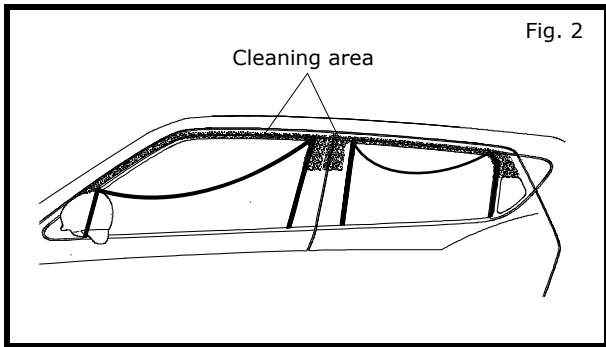

Fig. 2
- 4) Using a clean, lint free cloth and 90% or greater alcohol, wipe any dirt and oil from the mounting surface. Let area dry thoroughly. See Fig. 2.